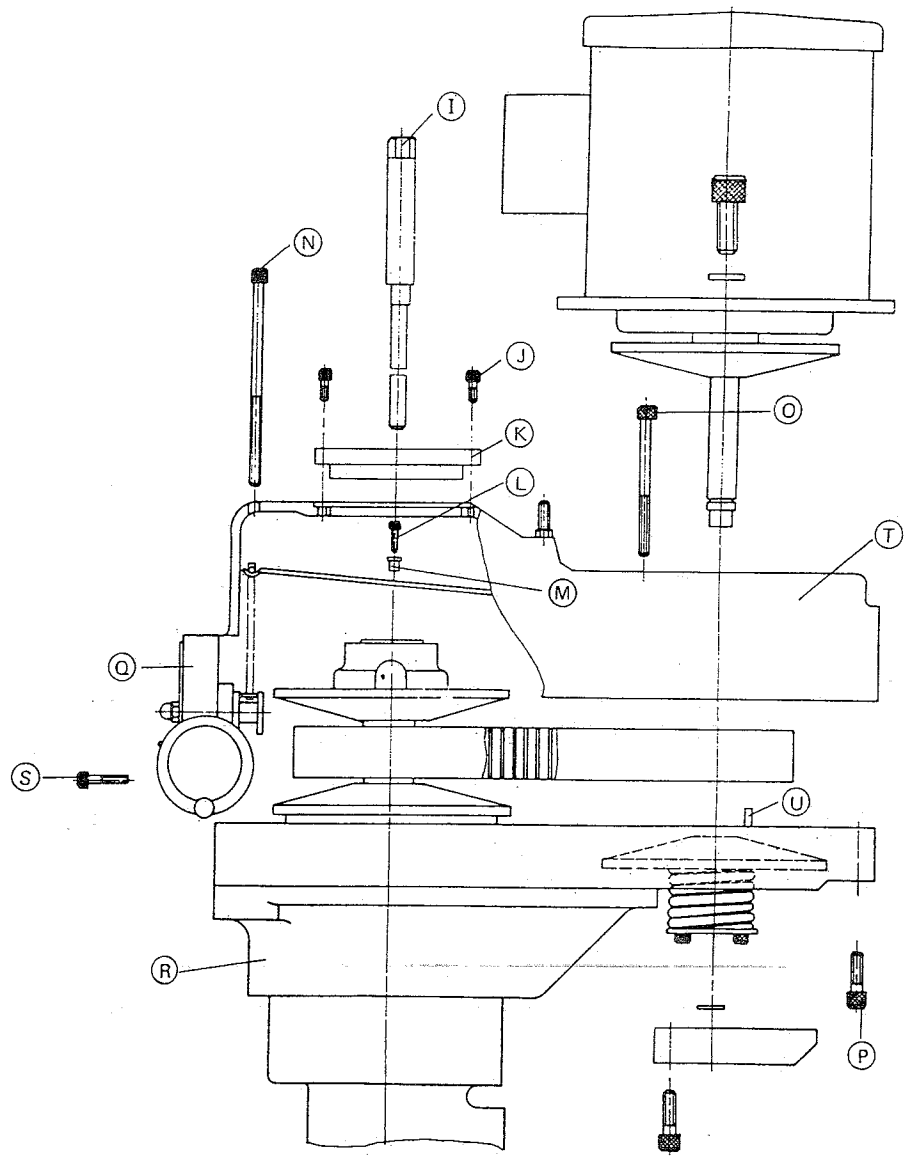

Figure 18
(2) Replacement of Speed Change Belt (as shown in Figure 18):
- c. Dismantle the three hexagonal concave bolts (j) and use two of them (j) to life the bearing housing (K).
- d. Remove from top the two hexagonal concave bolts (L), fixing the speed change plate, and take off the bolt sleeves (M).
- e. Dismantle four hexagonal concave bolts (N)(O) and the two at the bottom (P).
- f. Take off the two hexagonal concave bolts (S) speed change housing (Q) and gear housing (R).
- g. Use a mallet and hit the upper belt housing (T) lightly so that it will break away from the fix pin (U) for dismantling of the upper belt housing.